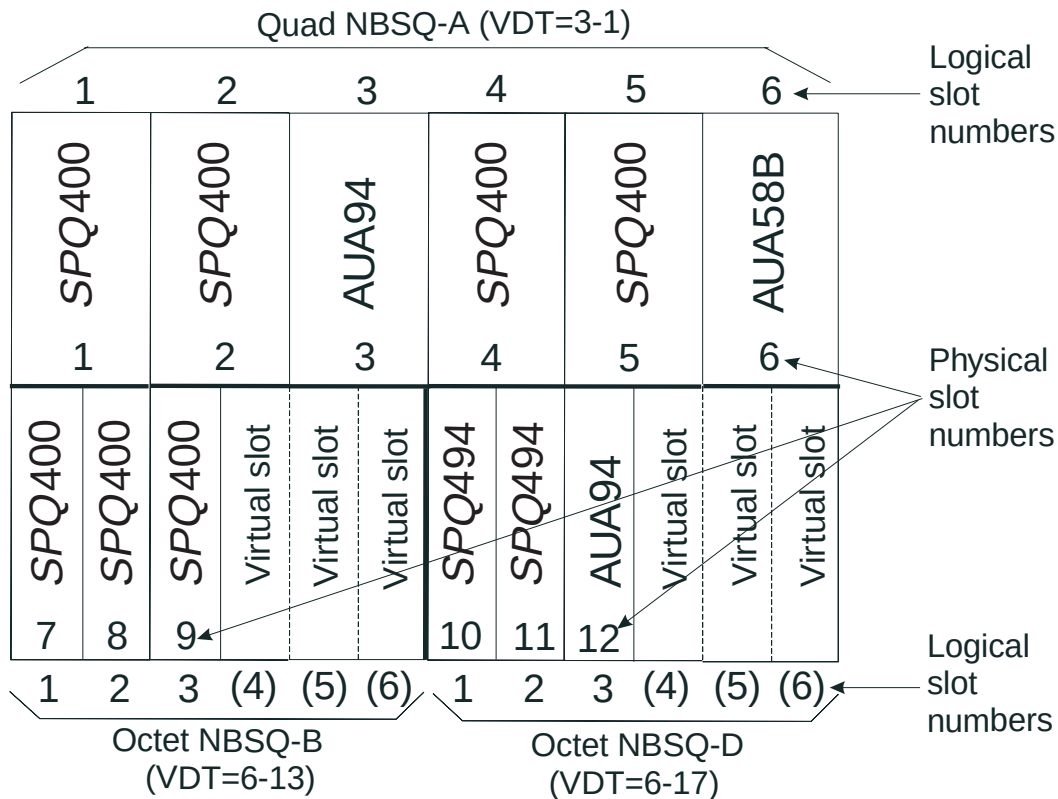

Figure 2 – Equipping NBSQ-A in Quad Mode and NBSQ-B and NBSQ-D in Octet Mode
- All channel unit circuit packs are located in NBS slots as shown in Figure 2.
Example 2 of setting mode (Figure 2):
Example 2 of creating cross-connections (Figure 2):
The slot numbers that appear in parentheses in the following example are the logical slot numbers shown in Figure 2.